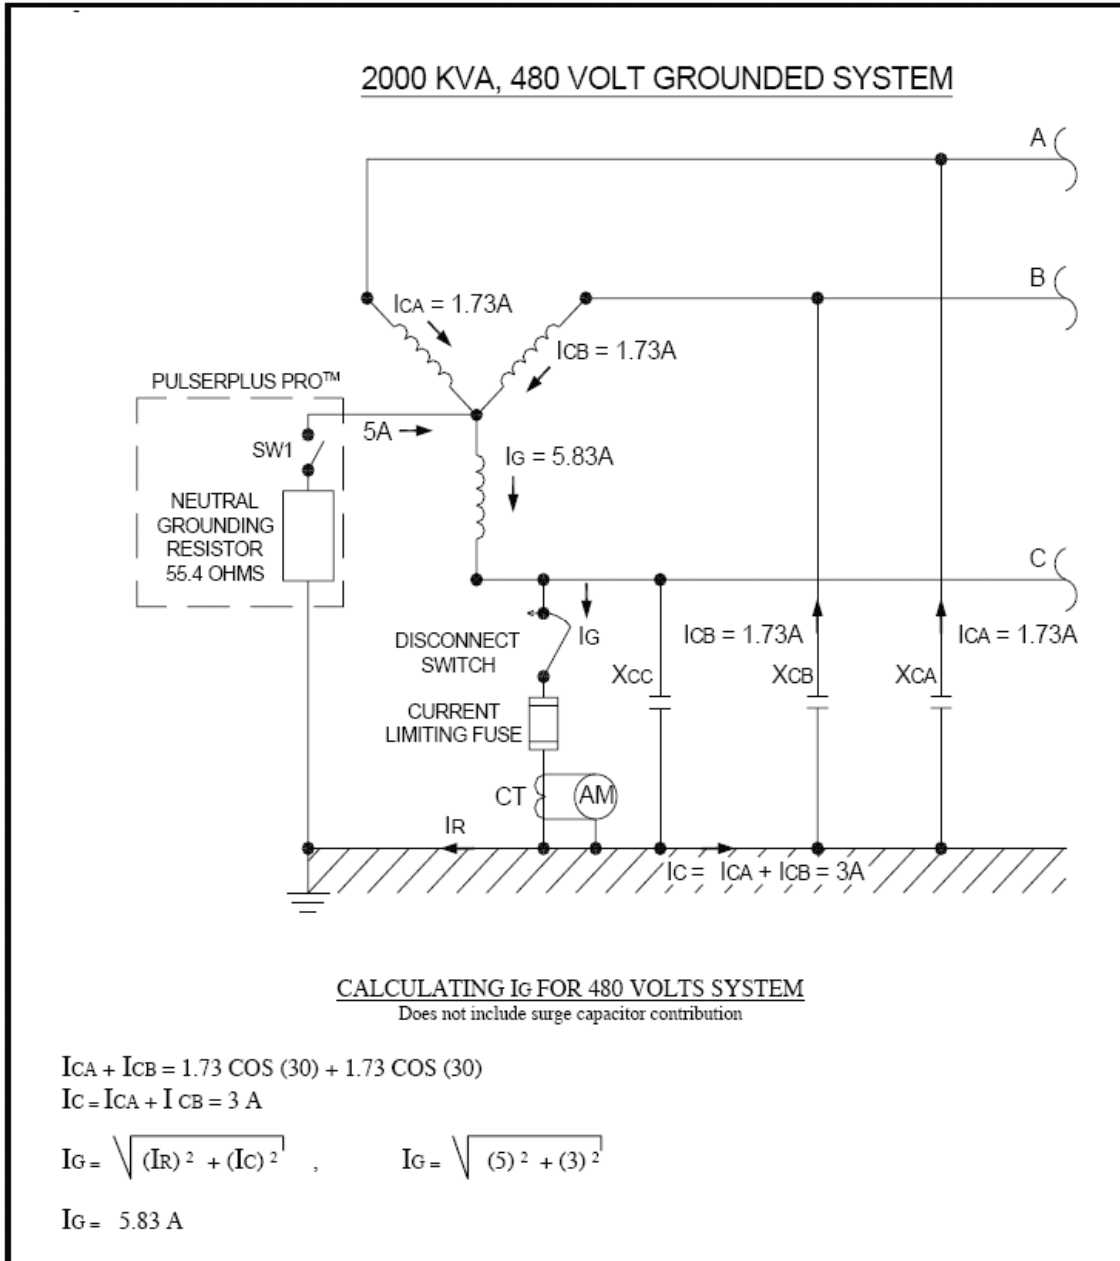

Figure 1
- 1) When a ground fault occurs, the resistor acts to limit the ground current to a predetermined low value. Fault current magnitude can be set by adjusting the taps provided on the resistor. Fault current shall be set so that the fault current is slightly greater than the system's natural capacitive-charging current (see Figure 1).
- 8) The most accurate way to determine the maximum value of the charging current is by test, since extreme variations can exist. The charging current per phase is represented by ICA, ICB or ICC while IC corresponds to the total line-to-ground charging current. To obtain the zero-sequence charging current, one phase conductor is intentionally grounded as shown in Figure 1, next page.
- 9) Test Procedure (refer to Figure 1 below)
- a. Temporarily install a disconnect switch, a current limiting fuse and a portable ammeter in the path between the phase to be tested and earth ground, as shown in Figure 1 on the next page. DO NOT CLOSE TEMPORARY DISCONNECT UNTIL SW1 IS CLOSED.
- c. Close the temporary disconnect switch installed on the phase to be grounded (as shown in Figure 1) in the system.
- d. With both disconnect switches closed, current through the grounded phase (IG) can be read by the portable ammeter and current through the neutral grounding resistor (IR) can be read by the PulserPlus Pro™ Display unit.
- f. Use the charging current calculations below to find the total line-to-ground charging current (IC).
From Figure 1: